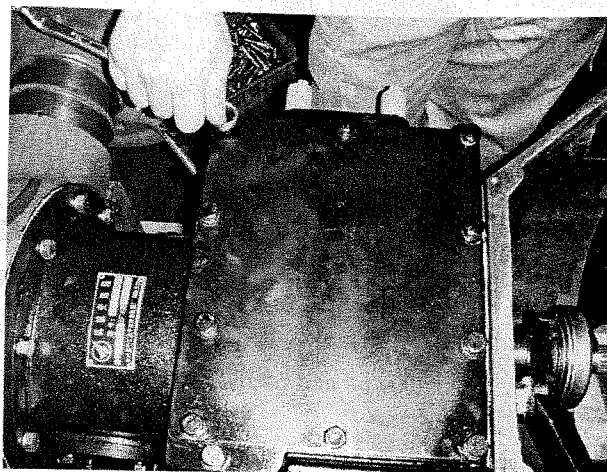

Fig 2-30
(7) Mount the gasket of case cover and the case onto the shell and use the specified torque of 20.6-34.3N.m (2.1-3.5kg.m) to screw down respective bolts (Fig 2-30).